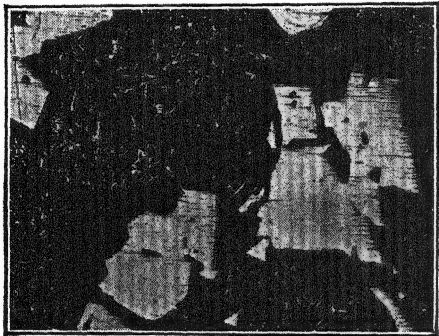

FIG. 225. — Antimonial lead. Magnified 75 diameters.
**391. Nature of Alloys.** By melting together two or more metals a substance called an *alloy* is often formed. In some cases an alloy appears to be merely a mixture of metals; in other cases a compound appears to be formed, since the proportion is definite. Many of the alloys are *solid solutions* of metals in one another. When such alloys are cooled, crystals of one of the metals may separate. Figure 225 shows a photo-micrograph of an alloy of antimonial lead. Crystals of antimony may be seen embedded in the metallic lead.